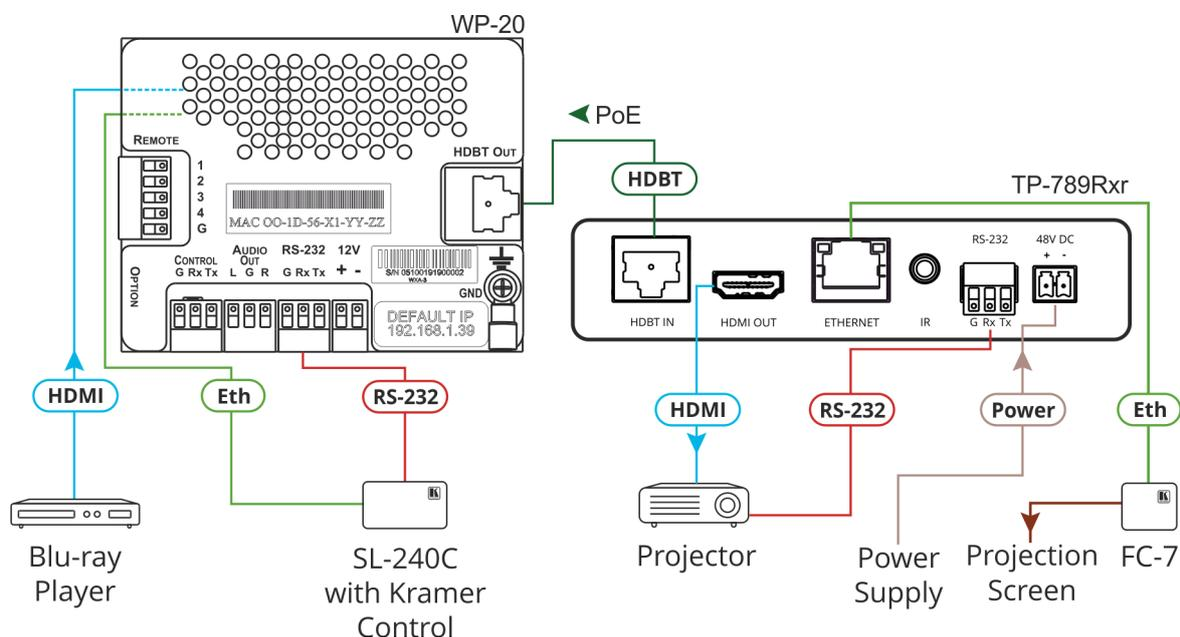

Figure 6: Connecting **TP-789Rxr** to **WP-20**
To connect **TP-789R/TP-789Rxr** as illustrated in the example in Figure 6:
2. Connect the HDMI OUT Connector (22) on the **TP-789R/TP-789Rxr** rear panel to the HDMI acceptor (for example, a projector).
3. Connect the RS-232 Terminal Block Connector (25) on the **TP-789R/TP-789Rxr** rear panel to the HDMI acceptor.
5. Connect the HDBT OUT RJ-45 Connector on the **WP-20** rear panel to the HDBT IN RJ-45 Connector (21) on the **TP-789R/TP-789Rxr** rear panel.
6. Connect a LAN-enabled device (for example, **FC-7** connected to a projection screen) to the Ethernet RJ-45 Connector (23) on the **TP-789Rxr** rear panel.
7. Connect the power adapter to the 48V DC Power Terminal Block (26) on **TP-789R/TP-789Rxr** rear panel and to the mains electricity (not shown in Figure 6).